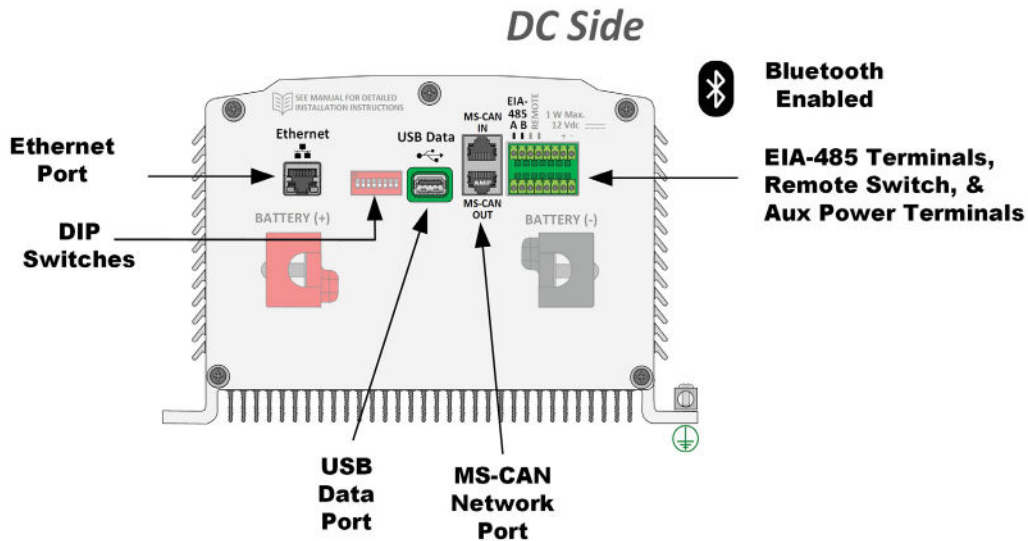

Figure 30: Communication Port Locations (700 W to 2,500 W Models)
- Figure 30 shows the locations of the communication ports for the 700 W to 2,500 W models.
Figure 30 shows the locations of the communication ports for the 700 W to 2,500 W models.